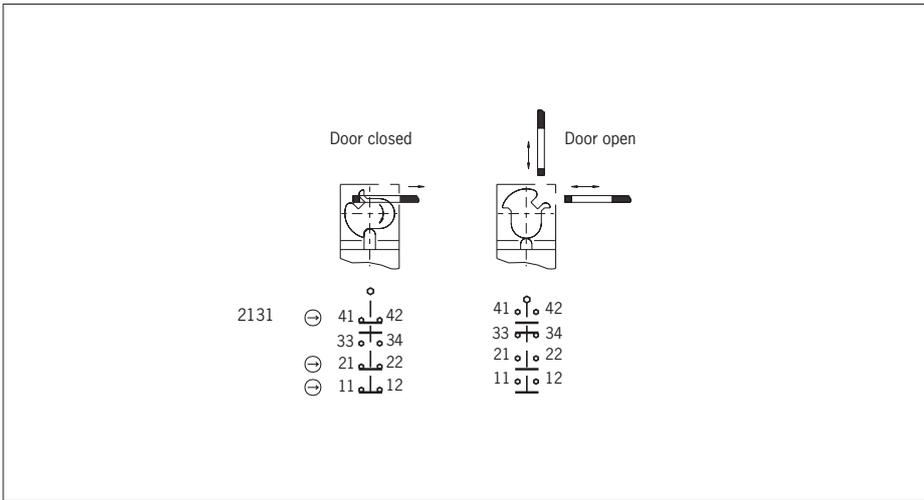

Figure 2: Switching elements and switching functions
At least one contact (⊖) must be used. It signals the guard locking state (for terminal assignment, see Figure 2).
3. Connect and tighten the terminals with 0.5 Nm (for terminal assignment, see Figure 2).